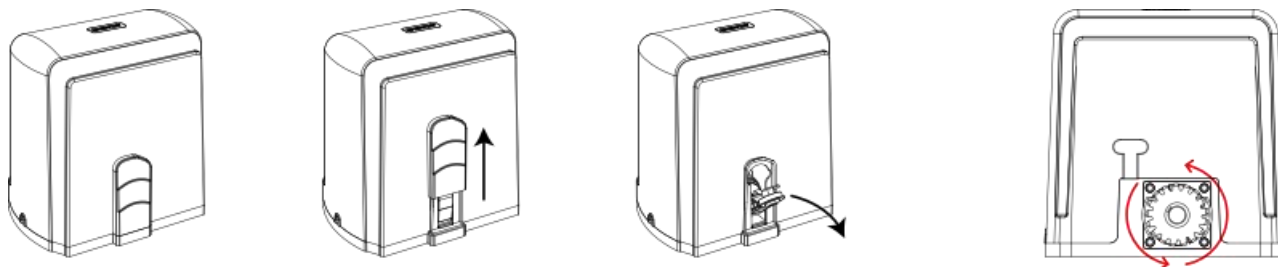

Figure 6
- Insert the key and open the manual release bar to enable the motor get into manual mode and check that the motor output gear rotates freely by hand (Figure 6).